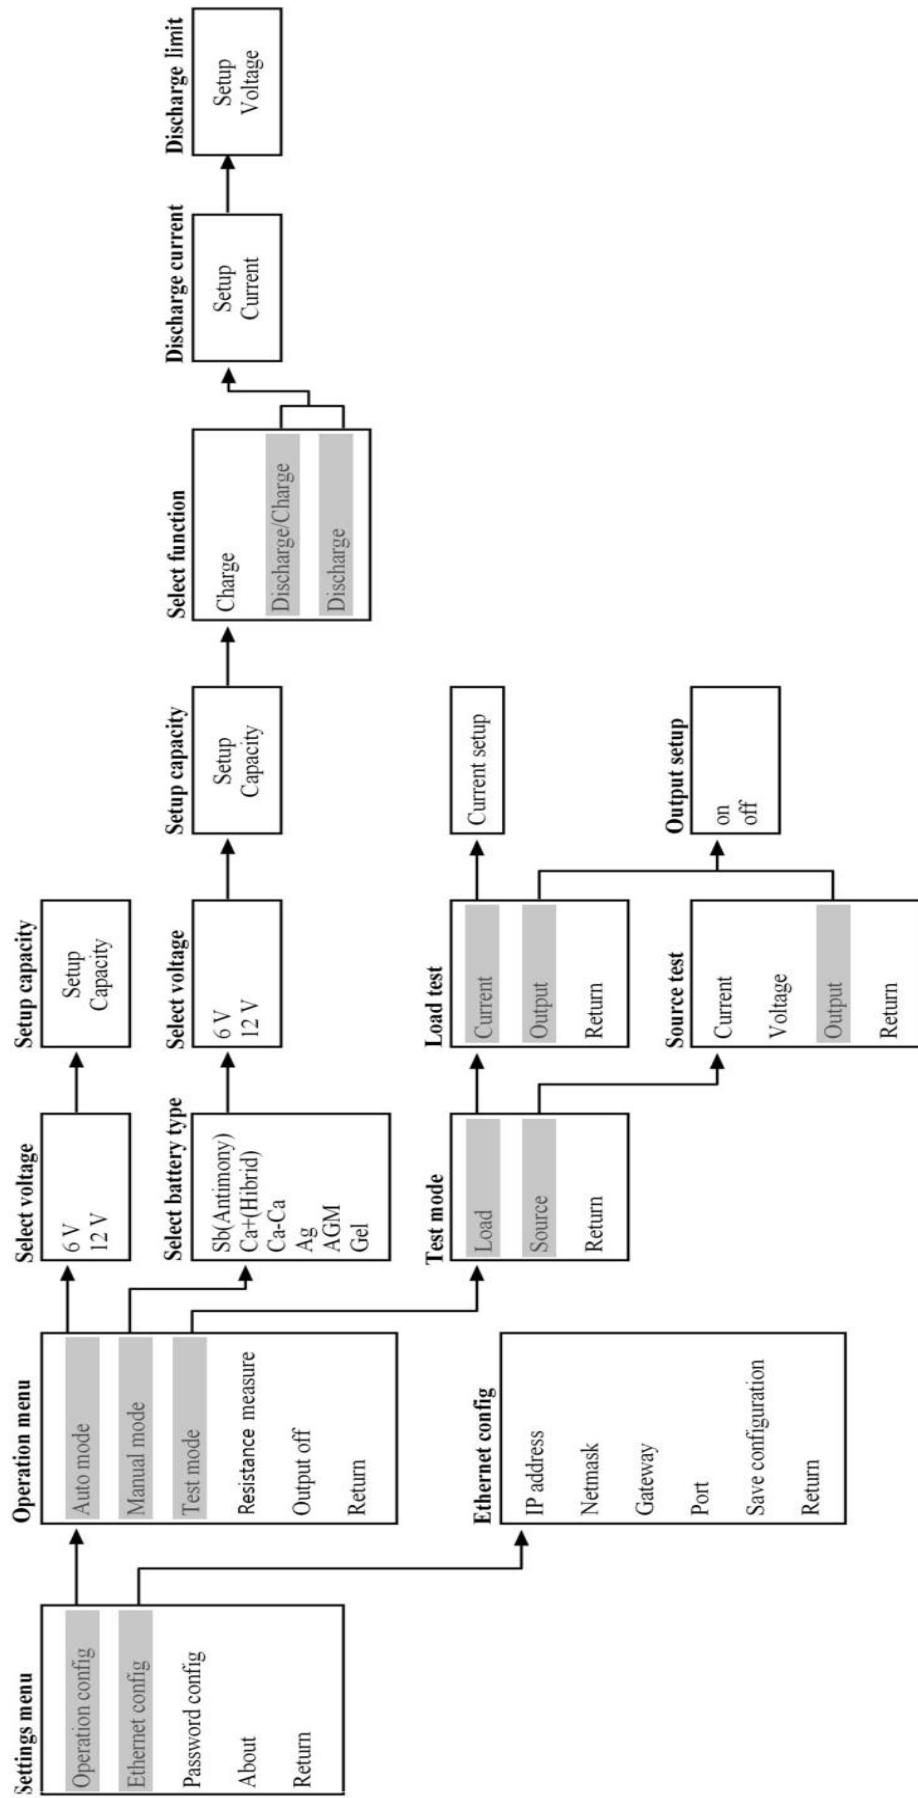

Figure 3.3 Menu structure
3.4.1 Menu structure is shown in Figure 3.3.